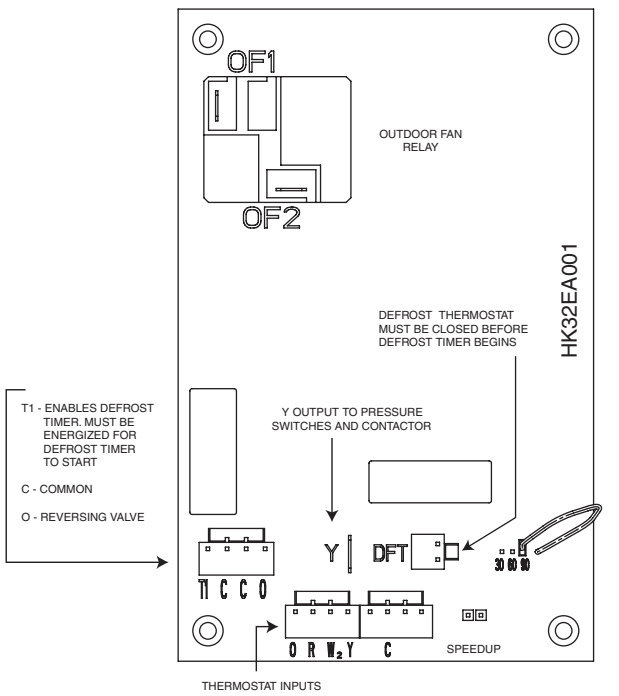

Fig. 12 - Defrost Control
2. Disconnect outdoor fan motor lead from OF2 on control board, see Fig. 12. Tape lead to prevent grounding.